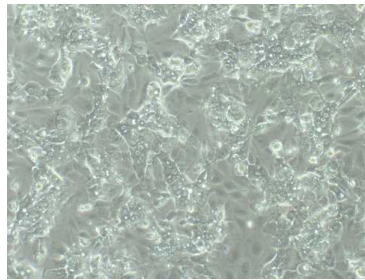

Figure 2
- After 72–96 hours of culture, a restructuring of cell monolayer can be observed with hepatocyte-like cell clusters (Figure 2).